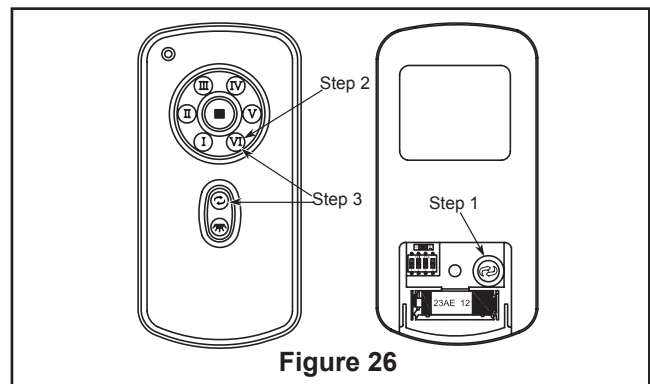

Figure 26
Step 2: Speed Setting: After step 1 is complete, press/release the high speed (VI) button and allo fan to run for 120 seconds. This will configure th speeds within the motor electronics.
Step 3: Performing Speed Settings for the reverse speeds: Press/release the reverse button on the remote control. Once fan has reversed, press/release the high speed (VI) button and allo the fan to run for 120 seconds. (Figure 26).